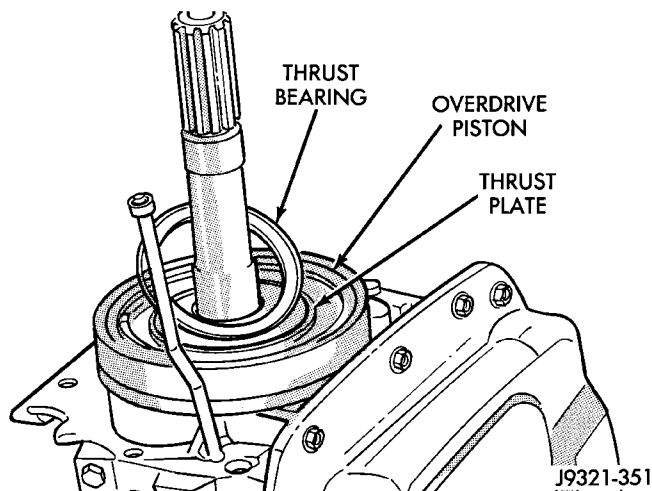

Fig. 186 Overdrive Piston Thrust Bearing Removal/Installation
(2) Remove overdrive piston thrust bearing (Fig. 186).